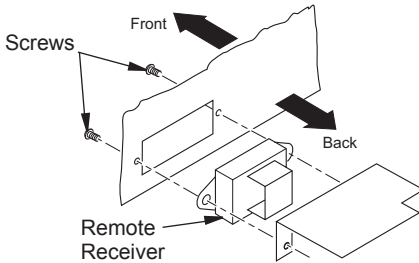

Figure 19 - Installing Remote Receiver
4. Install remote receiver unit onto gas log heater base using phillips head screws (see Figure 19).